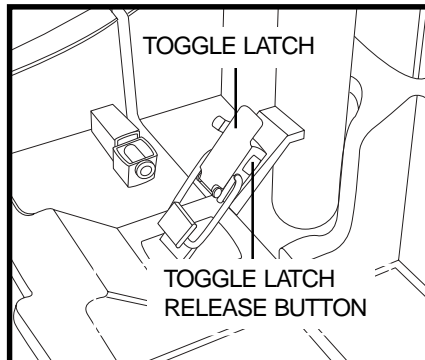

Figure 17. Toggle Latch (Latched)
1. Push in the toggle latch release button while pulling back the toggle latch. See figures 17 and 17A.